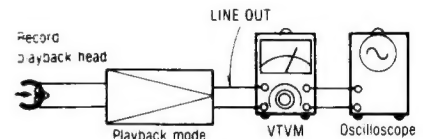

Fig. 2
1. Make connections as shown in fig. 2.